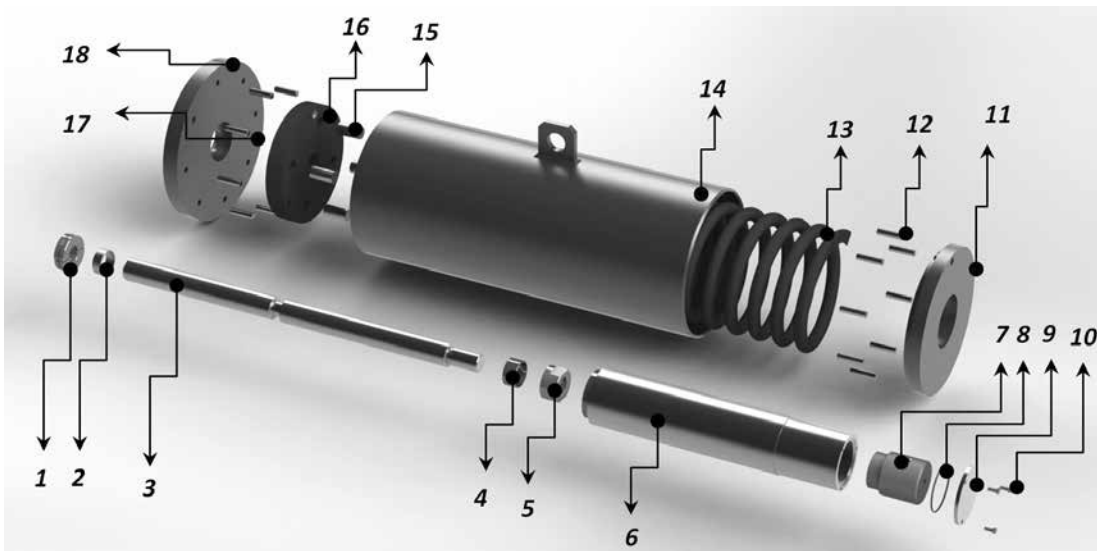

Figure 24: Spring Can Exploded View
The reference drawings are Figures 24, 25, 26 and 27.
- 4.1.3 The reference drawings for the instructions reported in the following paragraphs are the exploded views of single acting and double acting actuators, included as Figures 24, 25, 26 and 27.